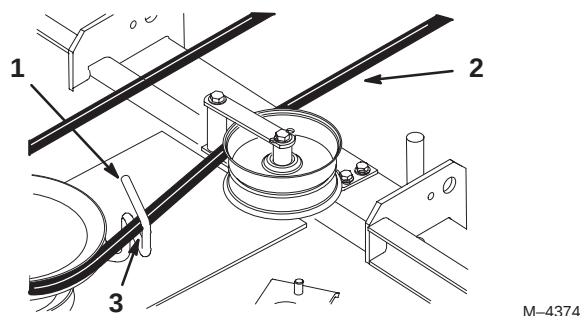

Figure 71
11. Rotate the belt guide, on rear of the mower, so it is 1/8–1/4 inch (3–7 mm) away from the vertical side of the PTO belt (Fig. 71).